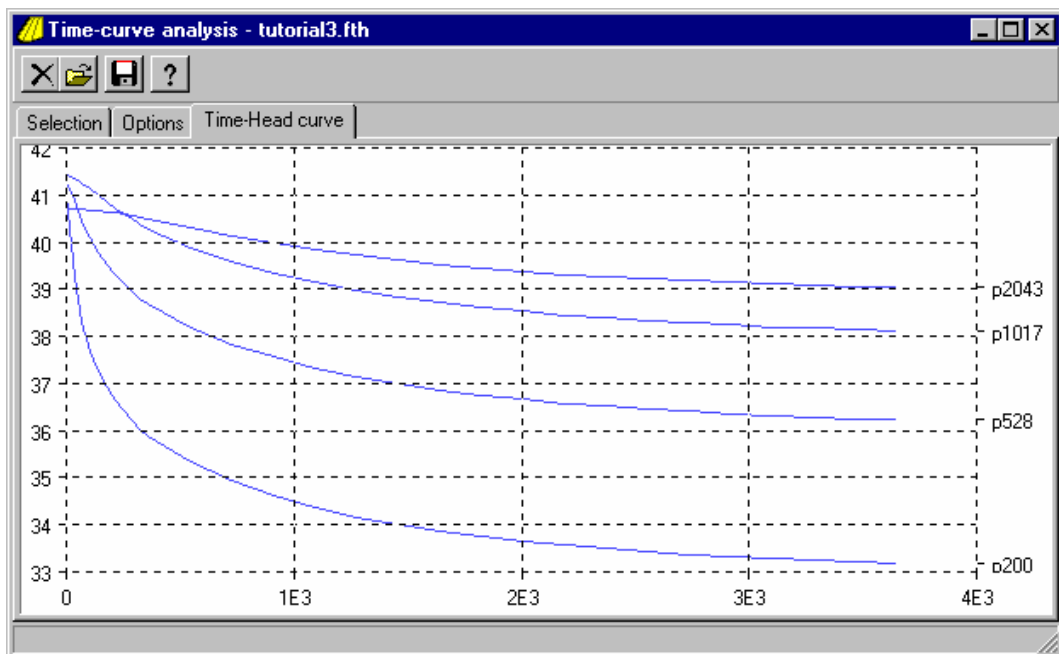

Figure 60: Time-Head curve
11. Finally we click the Time-Head curve tab to see the graph of Figure 60: